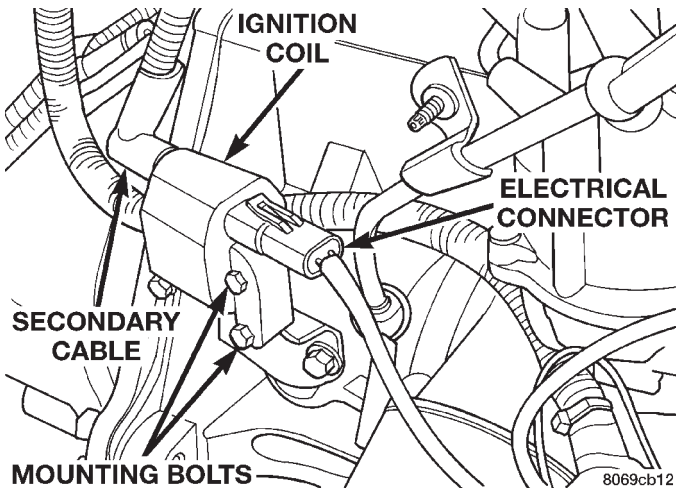
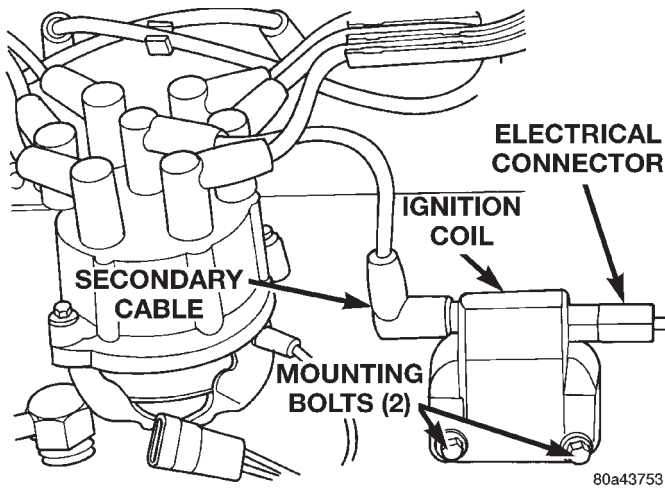

Fig. 17 Ignition Coil—2.5L Engine
Fig. 18 Ignition Coil—4.0L Engine
- (4) Inspect ignition coil connections. Verify coil secondary cable is firmly connected to coil (Fig. 17) or (Fig. 18).
- (5) Verify that distributor cap is correctly attached to distributor. Be sure that spark plug cables are firmly connected to the distributor cap and spark plugs are in their correct firing order. Be sure that coil cable is firmly connected to distributor cap and coil. Be sure that camshaft position sensor wire connector (at distributor) is firmly connected to harness connector. Inspect spark plug condition. Refer to Group 8D, Ignition. Connect vehicle to an oscilloscope and inspect spark events for fouled or damaged spark plugs or cables.